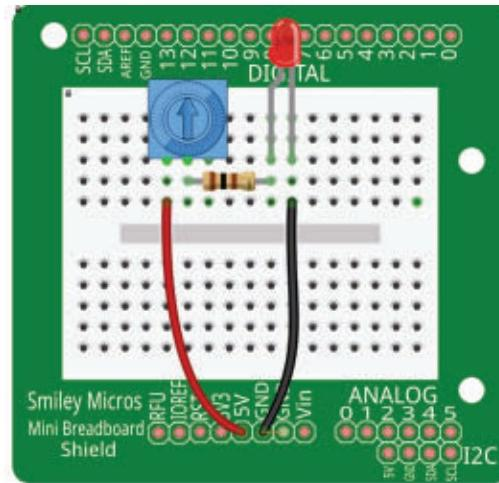

FIGURE 7: Potentiometer LED breadboard drawing.
- Build the circuit shown in **Figures 7** and **8**.